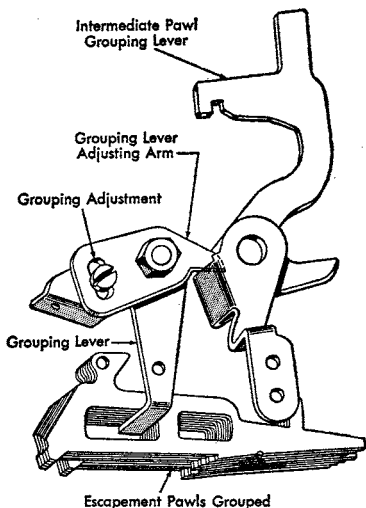

Figure 15. Grouping Adjustment
5. THE GROUPING LEVER. Adjust by repositioning this on the grouping lever adjusting arm (Figure 15) so that the escapement pawls are accurately grouped. Accurate grouping is observed by following these steps: